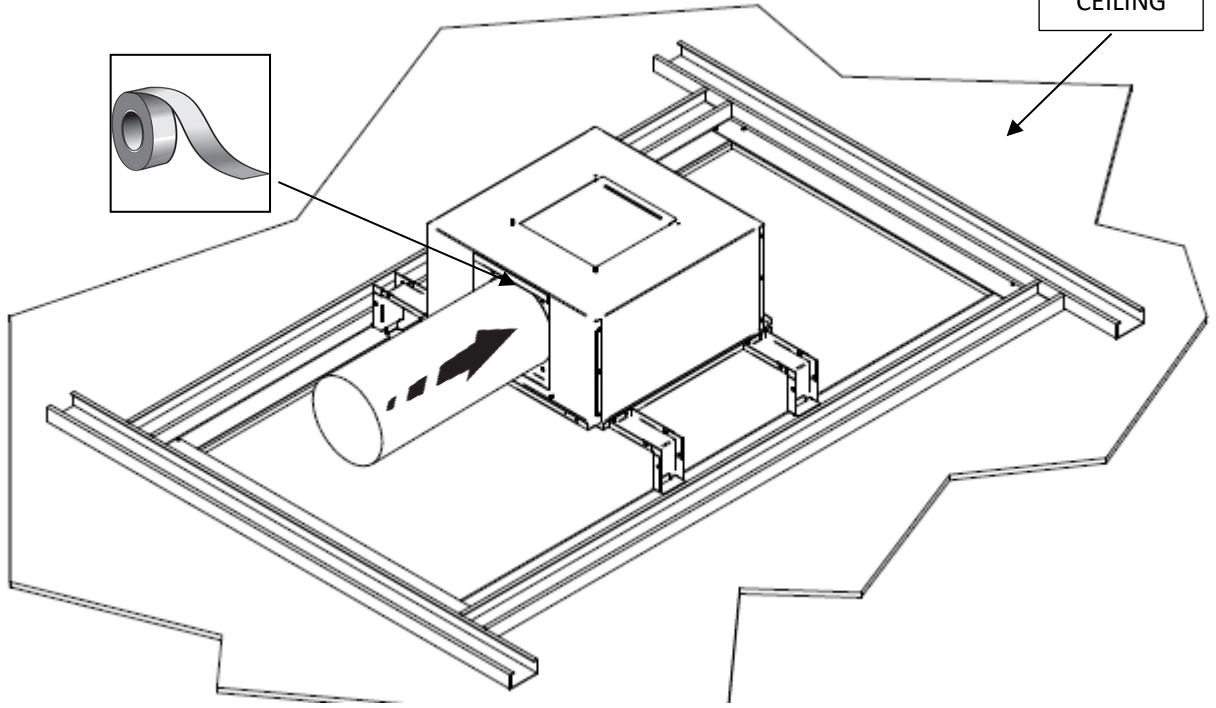

Fig. 10
- Plug in the 6 holes showed in fig.10 using the supplied cover caps (these holes are needed only in the second installation type) (fig.10).